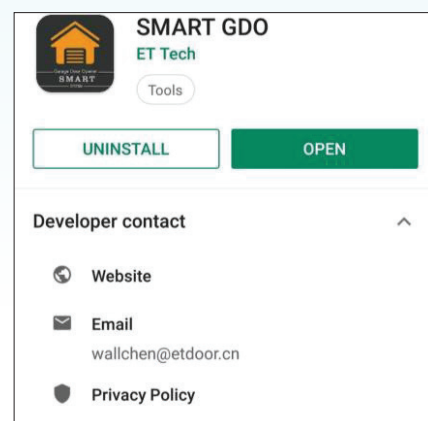

Fig. 21
1. Download the “Smart GDO” App to your smart phone (Fig. 21)